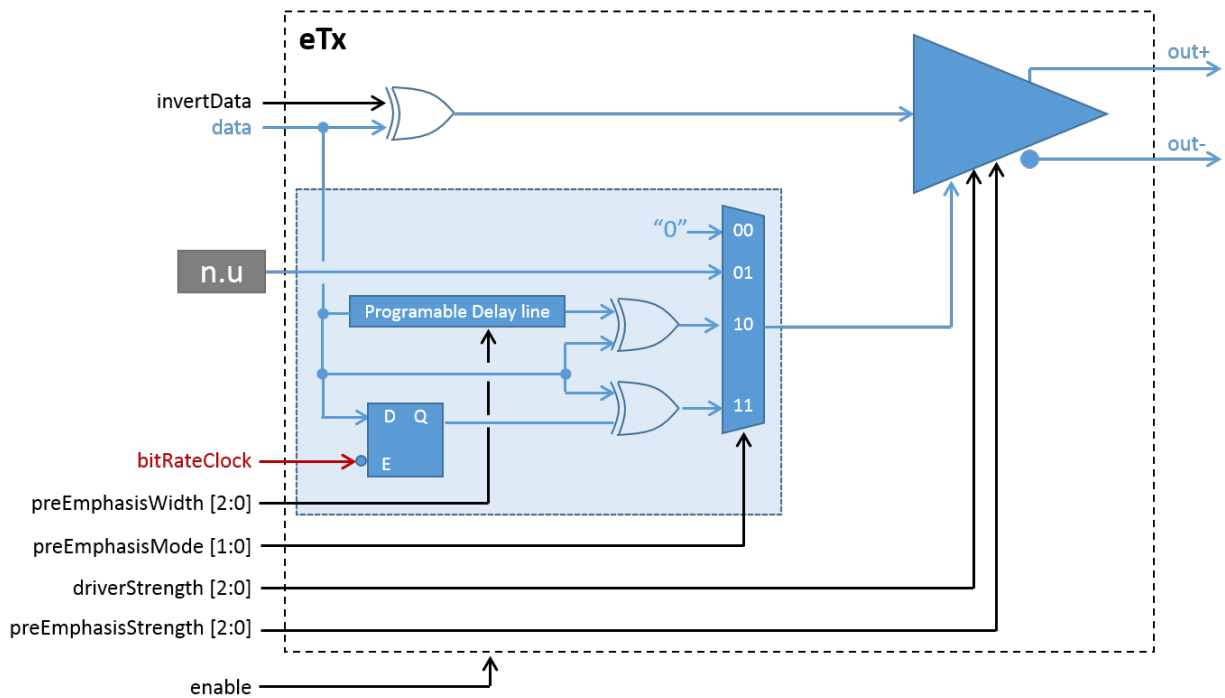

Fig. 7.5: eLink receiver
Fig. 7.5 illustrates the architecture of the IpGBT eLink driver. The same driver is used for the data outputs, up to 320 Mbps, and the clock outputs, up to 1.28 GHz. The driver has been designed to drive 100 Ohm loads with programmable strengths and controlled amounts of pre-emphasis. It has been designed to satisfy the CLPS standard previously described in this chapter. The driver offers many programmable features which include:
- *Enabling a clock driver:* In this case the signal "enable" in Fig. 7.5 becomes: $\text{enable} = (\text{EP-CLK}[G]\text{Freq}[2:0] \sim 2'b00)$. That is, every time a clock output is set to work at any of the frequencies between 40 MHz and 1.28 GHz the corresponding driver is enabled. The clock frequency is controlled by bits 2:0 of registers `[0x06c] EPCLK0ChnCntrH` (page 150) to `[0x0a4] EPCLK28ChnCntrH` (page 187);
- *Enabling a data driver:* In this case it is possible that even if a given group is active that a specific channel within that group will not be used. Consequently it is necessary to explicitly enable the channels in use. Here, the signal "enable" in Fig. 7.5 becomes: $\text{enable} = \text{EPTX}[G][C]\text{Enable}$. These signals are controlled by registers `[0x0a9] EPTX10Enable` (page 190) and `[0x0aa] EPTX32Enable` (page 190); Notice that, if the mirror function is not enabled, for a given data rate only the channels indicated in table *ePortTx (downlink) data rates* (page 48) can be enabled. If the mirror function is enabled for a given group it is possible to enable all the channels in that group. The mirror function is controlled on a group basis by signals `EPTX[G]MirrorEnable` in register `[0x0a8] EPTXControl` (page 189) (Bits 3:0).
- *Clock driver strength:* For clock drivers the driving strength is set by the signal "driverStrength[2:0]" in Fig. 7.5 with driverStrength[2:0] = EPCLK[C]DriveStrength[2:0]. These signals are controlled by bits 5:3 of registers [0x06c] EPCLK0ChnCtrH (page 150) to [0x0a4] EPCLK28ChnCtrH (page 187);
- *Data driver strength:* For data drivers the driving strength is set by the signal "driverStrength[2:0]" in Fig. 7.5 with driverStrength[2:0] = EPTX[G][0]DriveStrength[2:0]. These signals are controlled by bits 2:0 of registers [0x0ac] EPTX00ChnCtr (page 191) to [0x0bb] EPTX33ChnCtr (page 202). For the EC channel driverStrength[2:0] = EPTXEcDriveStrength[2:0], these signals are controlled by bits 2:0 of registers [0x0ab] EPTXEcChnCtr (page 190);
- *Clock driver pre-emphasis strength:* For clock drivers the driving strength is set by the signal "preEmphasisStrength[2:0]" in Fig. 7.5 with preEmphasisStrength[2:0] = EPCLK[C]PreEmphasisStrength[2:0]. These signals are controlled by bits 7:5 of registers [0x06d] EPCLK0ChnCtrL (page 150) to [0x0a5] EPCLK28ChnCtrL (page 188).
- *Clock driver pre-emphasis timing:* The pre-emphasis pulse width is controlled by two parameters (Fig. 7.5) the timing **Mode** and the **Pulse Length**. The "Mode" allows to select between no pre-emphasis, pre-emphasis with "clock timed" pulse duration (1/4 of the clock period) or "self timed" where the pulse width can be programmed from 120 ps up to 960 ps. Notice that the "clock timed" mode is not valid if the clock output is set to 1.28 GHz and that in the "self timed" mode the pulse width should never be programmed to exceed 1/2 clock period. The pre-emphasis mode is selected by the signals preEmphasisMode[1:0] = EPCLK[C]PreEmphasisMode[2:0] that are controlled by bits 4:3 of registers [0x06d] EPCLK0ChnCtrL (page 150) to [0x0a5] EPCLK28ChnCtrL (page 188). When in the "self timed" mode, the signals preEmphasisWidth[2:0] = EPCLK[C]PreEmpahasisWidth[2:0] set the pulse width and are controlled by bits 2:0 of registers [0x06d] EPCLK0ChnCtrL (page 150) to [0x0a5] EPCLK28ChnCtrL (page 188).
- *Data driver pre-emphasis strength:* For data drivers the driving strength is set by the signal "preEmphasisStrength[2:0]" in Fig. 7.5 with preEmphasisStrength[2:0] = EPTX[G][C]PreEmphasisStrength[2:0]. These signals are controlled by bits 7:5 of registers [0x0ac] EPTX00ChnCtr (page 191) to [0x0bb] EPTX33ChnCtr (page 202). For the EC channel preEmphasisStrength[2:0] = EPTXEcDriveStrength[2:0], these signals are controlled by bits 7:5 of registers [0x0ab] EPTXEcChnCtr (page 190);
- *Data driver pre-emphasis timing:* The pre-emphasis pulse width is controlled by two parameters (Fig. 7.5) the timing **Mode** and the **Pulse Length**. The "Mode" allows to select between no pre-emphasis, pre-emphasis with "clock timed" pulse duration (1/2 of the clock period) or "self timed" where the pulse width can be programmed from 120 ps up to 960 ps. Notice in the "self timed" mode the pulse width should never be programmed to exceed the bit period. The pre-emphasis mode is selected by the signals preEmphasisMode[1:0] = EPTX[G][C]PreEmphasisMode[1:0] that are controlled by bits 4:3 of registers [0x0ac] EPTX00ChnCtr (page 191) to [0x0bb] EPTX33ChnCtr (page 202). When in the "self timed" mode, the signals preEmphasisWidth[2:0] = EPTX[G][C]PreEmpahasisWidth[2:0] set the pulse width and are controlled by bits 6:4 and 2:0 of registers [0x0bc] EPTX01_00ChnCtr (page 203) to [0x0c3] EPTX33_32ChnCtr (page 208). For the EC channel the pre-emphasis mode is selected by the signals preEmphasisMode[1:0] = EPTXEcPreEmphasisMode[1:0] that are controlled by bits 4:3 of register [0x0ab] EPTXEcChnCtr (page 190). When in the "self timed" mode, the signals preEmphasisWidth[2:0] = EPTXEcPreEmphasisWidth[2:1] set the pulse width and are controlled by bits 6:4 of register :ref:*REG_EPTXCONTROL.